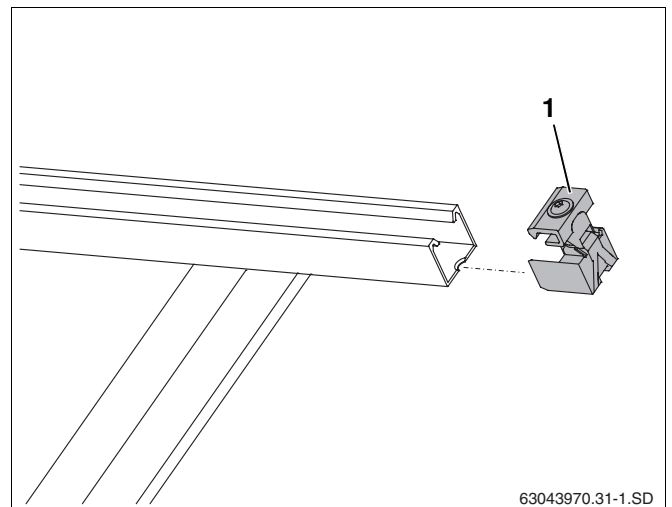

Fig. 45 Fitting the one-sided collector clamp
- Push one-sided collector clamps (Fig. 45, **Item 1**) into the profile rails at the right-hand end of the collector array until they click into place in the first slotted hole on the profile rails.